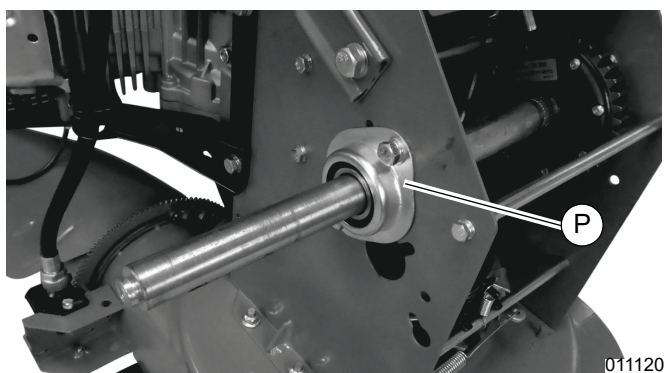

Figure 4-35. Left Side Wheel Bearing Assembly
9. See Figure 4-35. Install left side wheel bearing assembly (P).